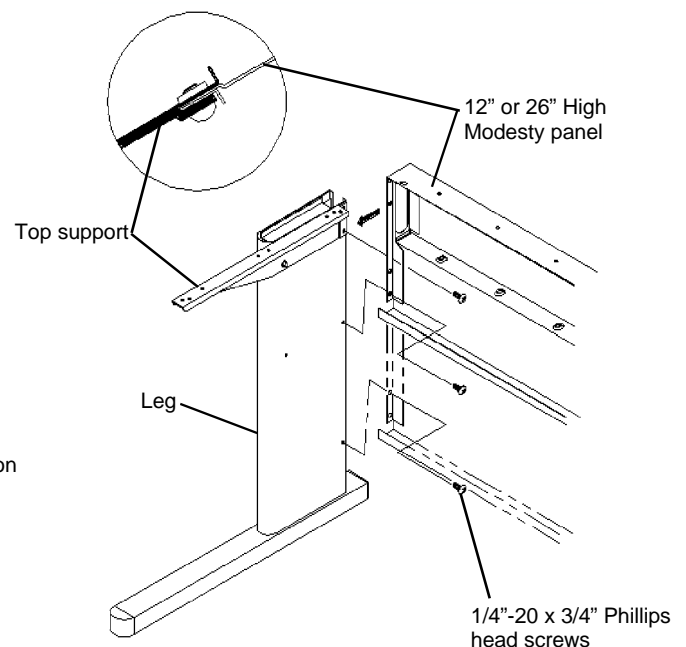

Figure 2
2. The **Modesty Panel** is installed from the rear and fits between the Top Support and the leg. Attach it with two 1/4"-20 x 3/4" Phillips head screws. Tighten all screws securely. See **Figure 2**.